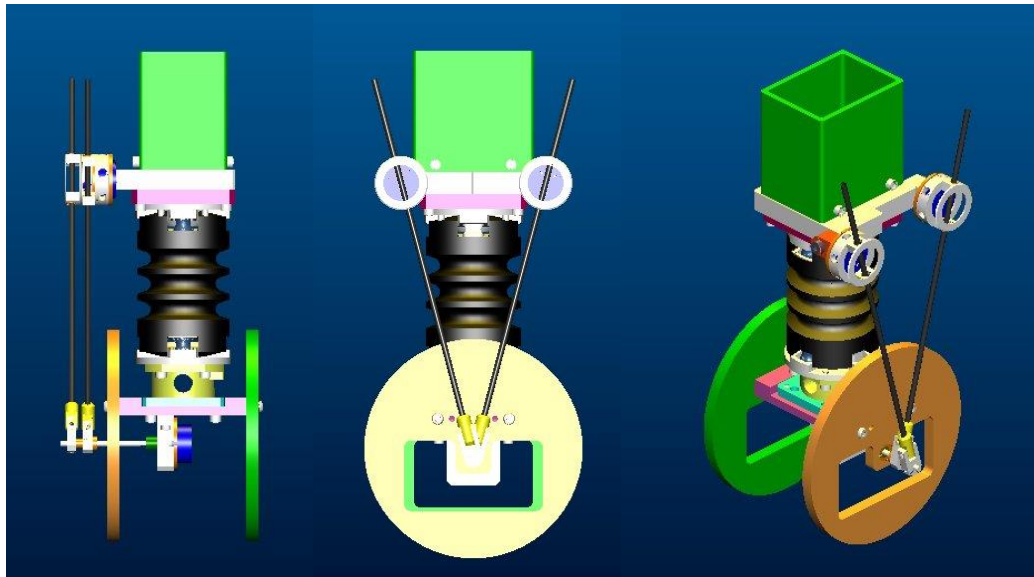

Figure 8-4 Neck and headform assembled for neck certification.
- 3) The headform used to test the neck is shown in figure 8-4. The WorldSID headform (P/N W50-83000), instrumented with three rotational potentiometers and upper neck load cell, is attached to the WorldSID neck.